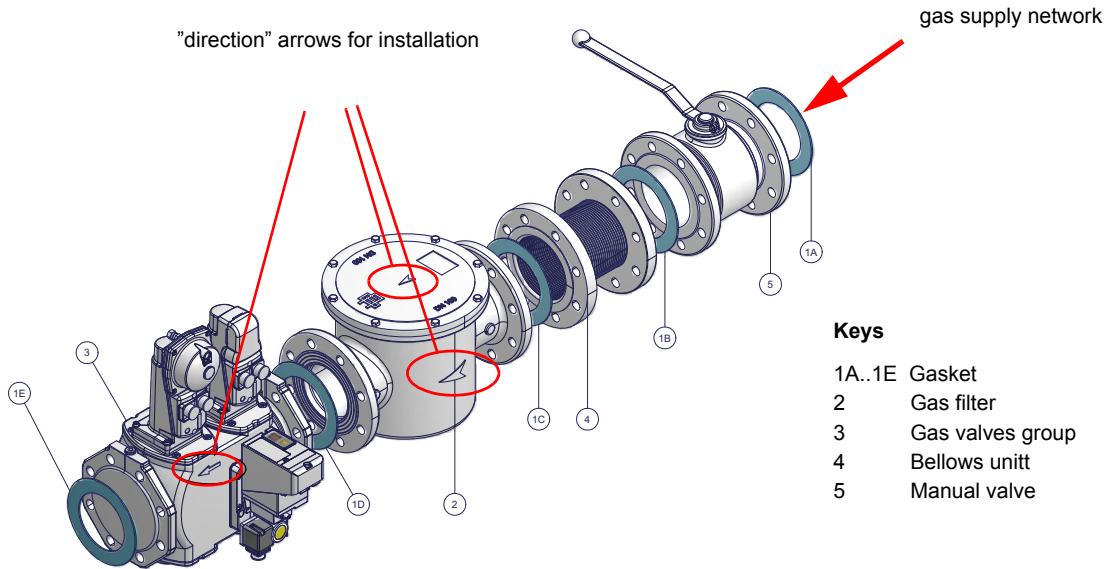

Fig. 5 - Example of gas train
- 1-b) in case of flanged joints: place a gasket (no. 1A..1E - Fig. 5) between the elements
ATTENTION: once the gas train is mounted according to the diagram (Fig. 5), the gas proving test must be performed, according to the procedure set by the laws in force.